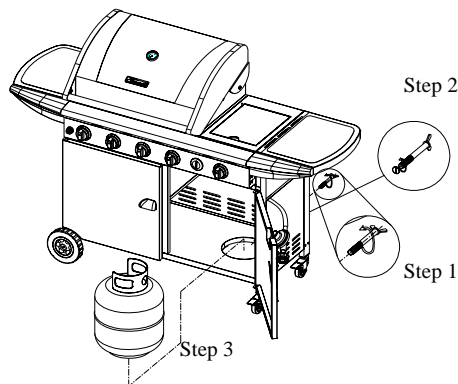

Figure 19
1.From Rear of the cart, place foot ring of 20 lb tank into the hole in bottom shelf. Make sure the tank valve is in OFF position. (Fig.19)